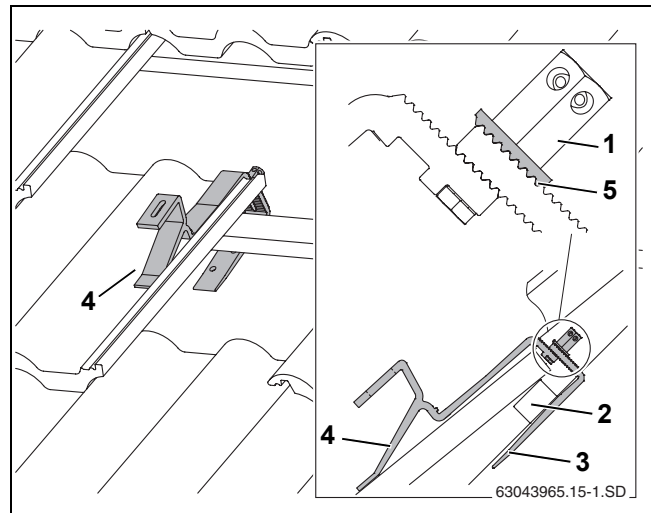

Fig. 12 Fixed roof hook (for an improved view, some tiles have not been shown)
- ▶ Fit the roof hook so that the load rests in the front in a tile hollow (Fig. 12, [4]).
- ▶ Slide the front part of the roof hook (Fig. 12, [3]) until it rests in the batten (Fig. 12, [2]).
- ▶ Tighten the long hexagon nut (Fig. 12, [1]). For this purpose, insert the size 5 spanner into the hole of the hexagon nut and turn.
The serrated washer (Fig. 12, [5]) must fit into the lower part of the roof hook.